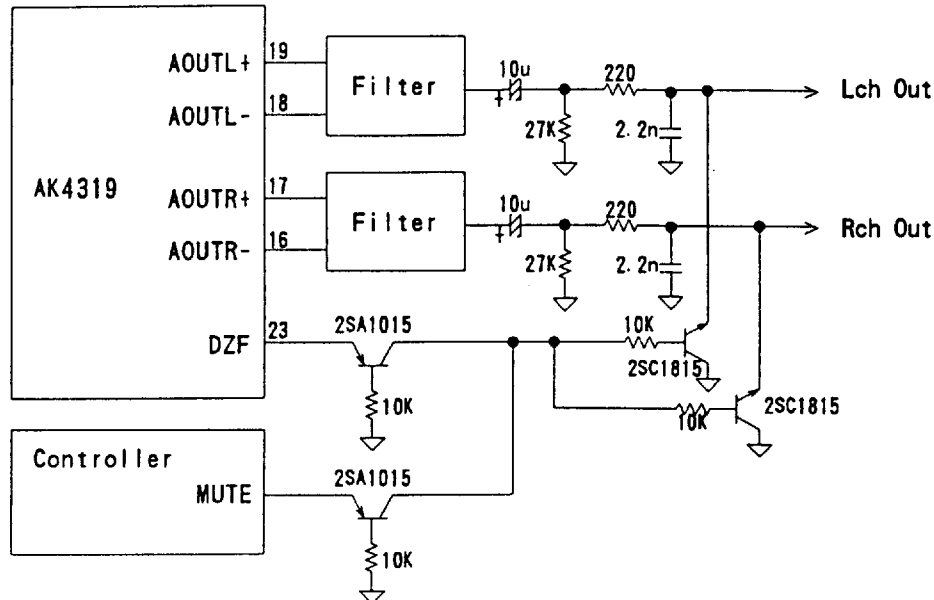

Figure 7. External mute circuit example
- ① Analog output has the group delay(GD).
- ② When power-down is initiated, analog outputs are set into Hi-Z. Outputs noise level is about -110dB.
- ③ Some -50dB of click noise occurs at the transition (" ↓ ↑ ") of PD pin.
- ④ When the master clock is stopped, the AK4319 should have been in the power-down mode.
- ⑤ If the click noise (③) is a problem, an external mute circuit which generates above timing (⑤) is needed. Please refer to Figure 7.
Some click noise may occur at the transition(" $\uparrow \downarrow$ ") of PD signal. The click noise of PD signal can be avoided by controlling the external mute circuit using the signal like ⑤ in Figure 6. The S/N of -110dB could be achieved by muting the analog outputs using DZF signal. The external mute circuit example is shown in Figure 7.